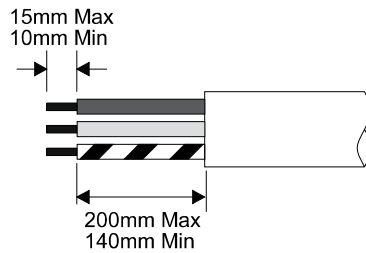

Figure 6. - Mains Cable Preparation
1. Prepare the cable for connection by stripping back the insulation as shown in Figure 6, and pass it through the cable gland.